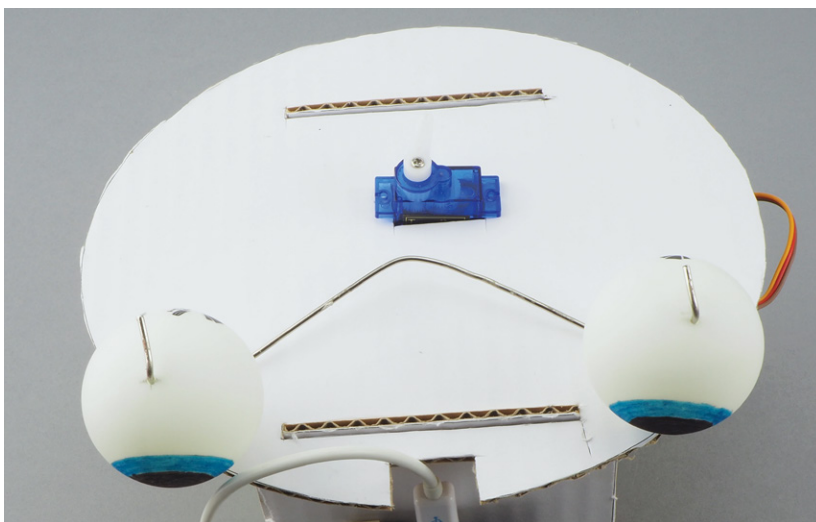

Figure 6-17: Connecting the eyeballs
16. Now attach the eyeballs and wire frame to the top card, as shown in Figure 6-17. Adjust the bend in the middle of the wire frame so that the eyeballs are centered over the two circles drawn on the top card. Then use adhesive tape to hold the wire in place. Give the eyeballs a little spin to make sure they can turn freely.